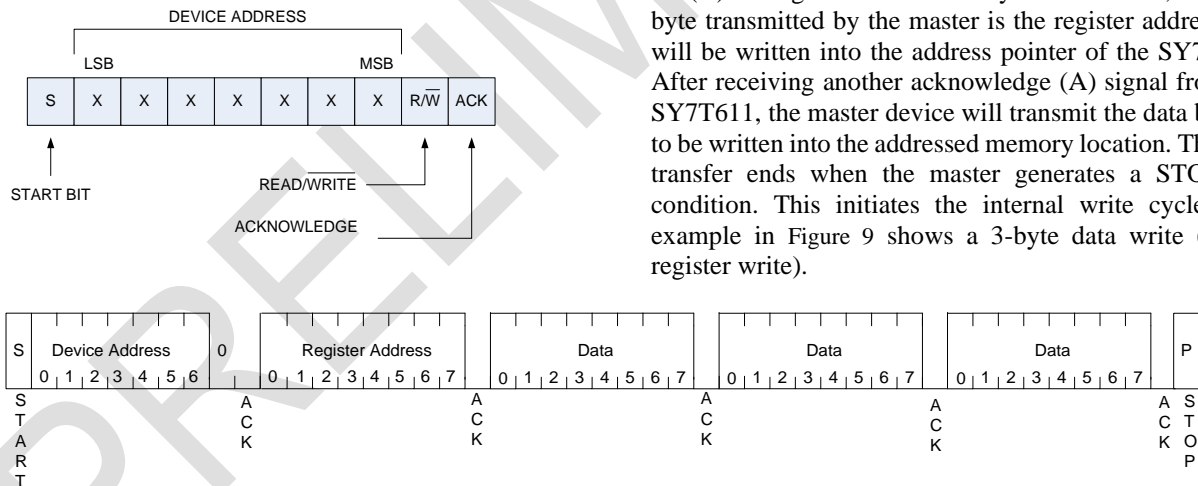

Figure 9: I2C Bus 3-byte Data Write
Following the START (S) condition from the master, the device address (7-bits) and the R/W bit (logic low for write) are clocked onto the bus by the master. This indicates to the addressed slave receiver that the register address will follow after it has generated an acknowledge bit (A) during the ninth clock cycle. Therefore, the next byte transmitted by the master is the register address and will be written into the address pointer of the SY7T611. After receiving another acknowledge (A) signal from the SY7T611, the master device will transmit the data byte(s) to be written into the addressed memory location. The data transfer ends when the master generates a STOP (P) condition. This initiates the internal write cycle. The example in Figure 9 shows a 3-byte data write (24-bit register write).